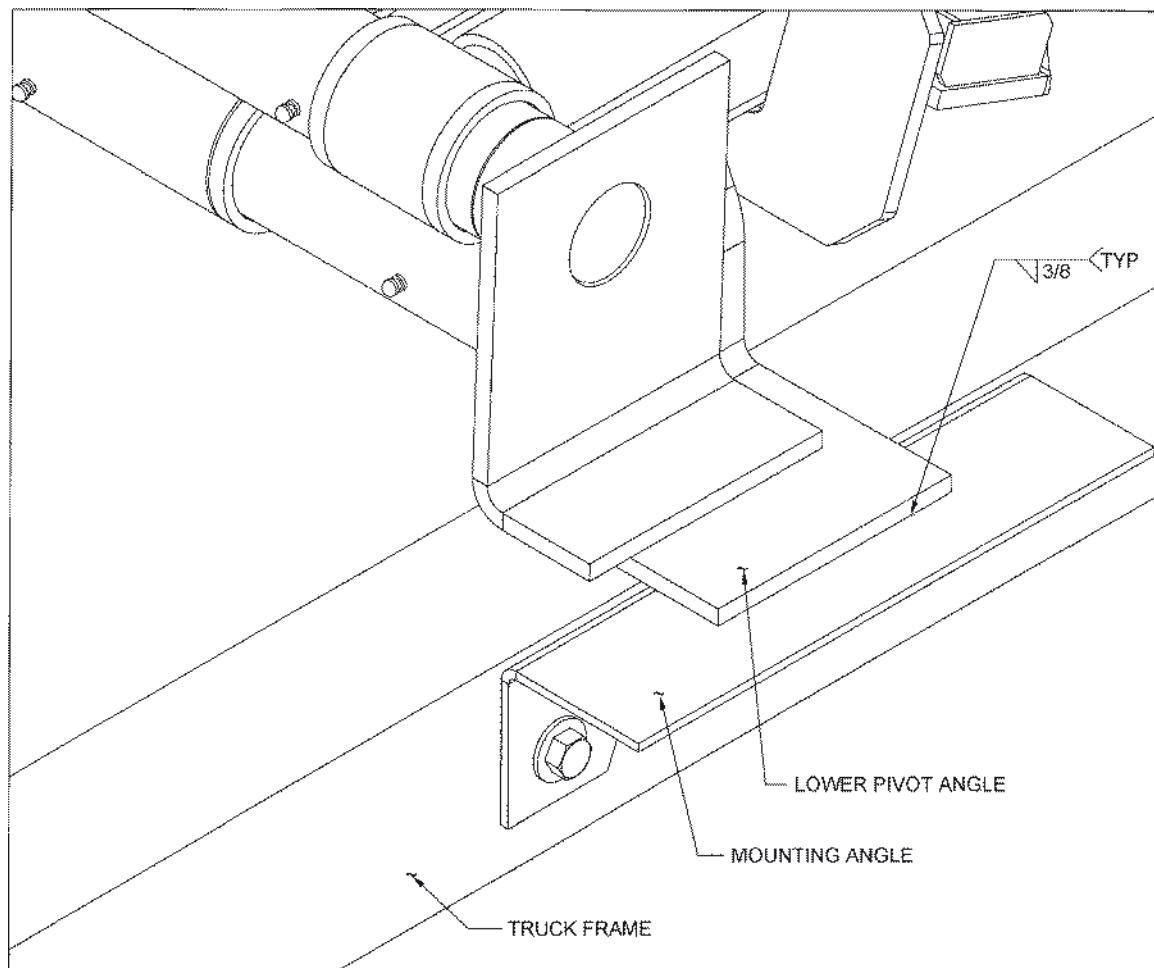

Figure 3 - Mounting Angle Assembly
- E. After the hoist is positioned, place the mounting angles (Figure 3) under the lower pivot angles and against the truck frame. Clamp securely in place. Drill through the frame and install the mounting angle with two (2) 1/2" x 1-1/2" hex head cap screws, lock washers, and hex nuts, and four flatwashers (both sides).
- F. Weld each end of the lower pivot angle to its mounting angle as shown in Figure 3. Note the welding symbols. Do not weld to the truck frame.